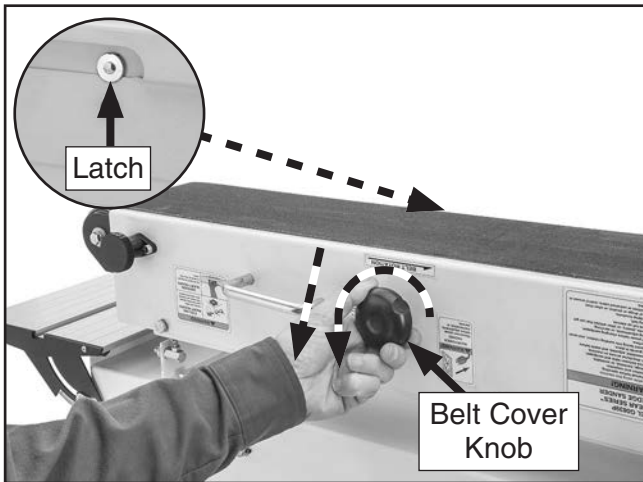

Figure 25. Opening belt cover.
3. Open belt cover by rotating knob counterclockwise, and then pushing it downward to release the latch, as shown in **Figure 25**.